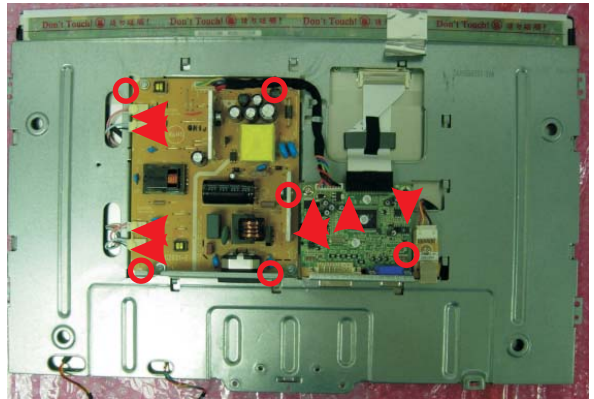

Fig.16
2. Remove the 6 screws and disconnect 8 calbe to remove the scaler board , power board and USB board as Fig.16.